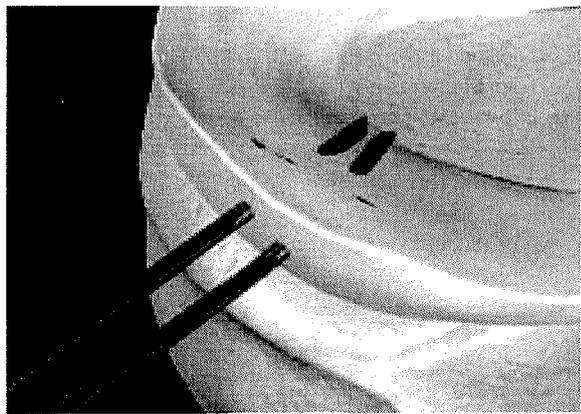

Figure 2
5. Pass the second needle (straight or curved) parallel to the first needle through the skin opening and into the joint to allow placement of suture to secure the meniscus (Figure 2).